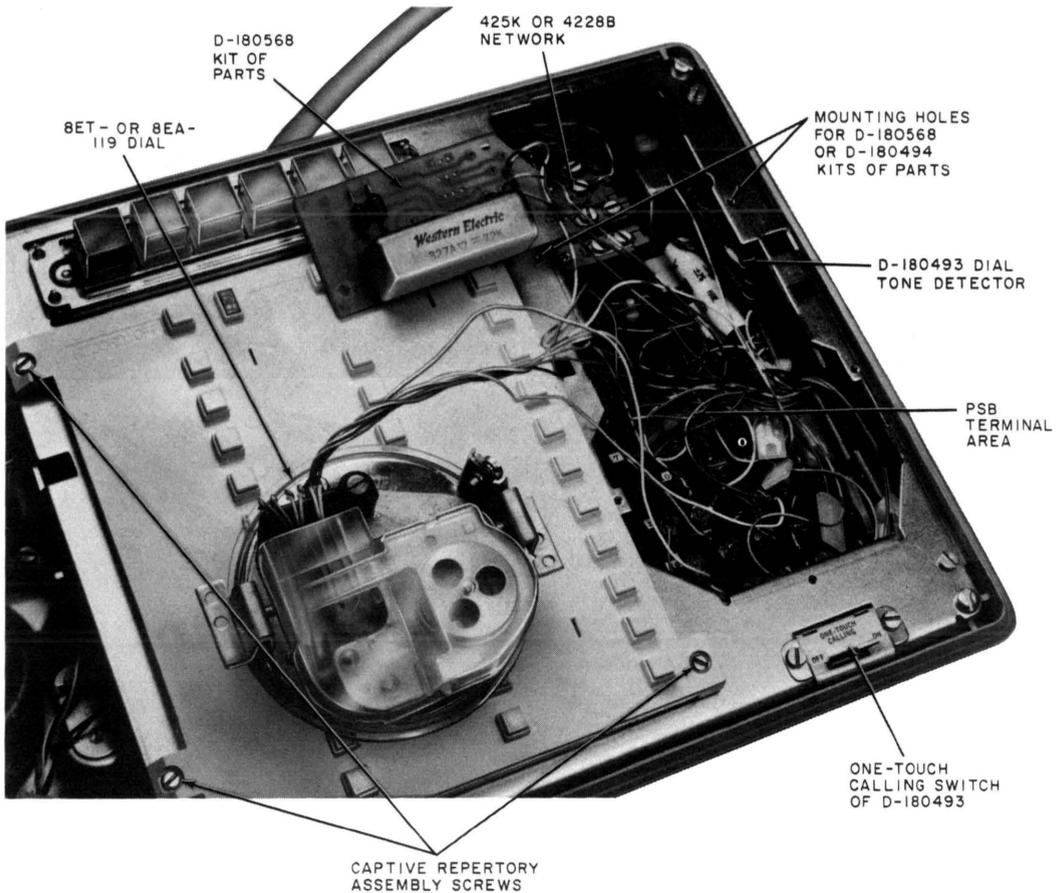

Fig. 4—872A1M Telephone Set—Dial Removed To Show Terminal Area
- Network (Fig. 4)
- Options (Fig. 4):